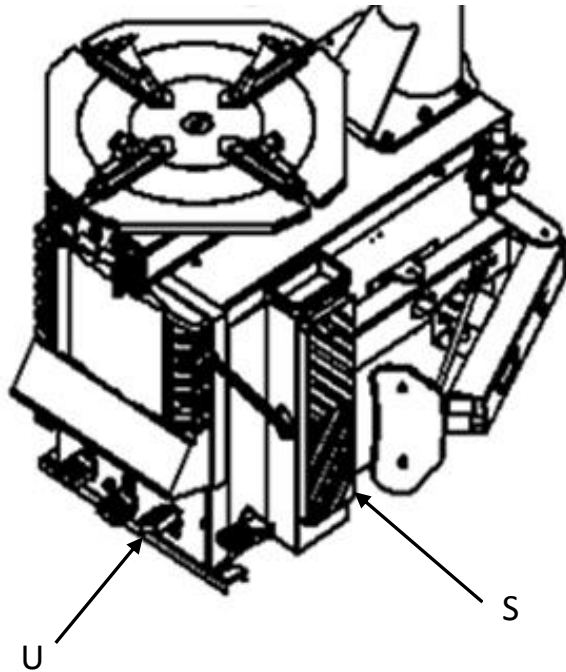

Figure 9
- ◇ As shown in Figure 9,10, the tire need to be leaned on the rubber mat which is on the right side of the semi automatic tire changer (S), (Note: it must be very careful to
- ◇ As shown in Figure 9, step on the pedal (U) and start the tyre pressing device. When the tire pressure shovel completed operation or the wheel edge goes away from the rim, release the pedal. Gently rotating the tire, repeat the same operation to the other place of the tyre.
- ◇ After pressing tyre, the rim edge should be coated with special lubricating fluid, make the position of the pedal (V1) be in parallel with (V2), the tyre should be fixed on the clamp (G) , make the clamp lock the rim tightly by steeping on the pedal (V2) (Note: make sure that the rim is locked tightly by the clamps).